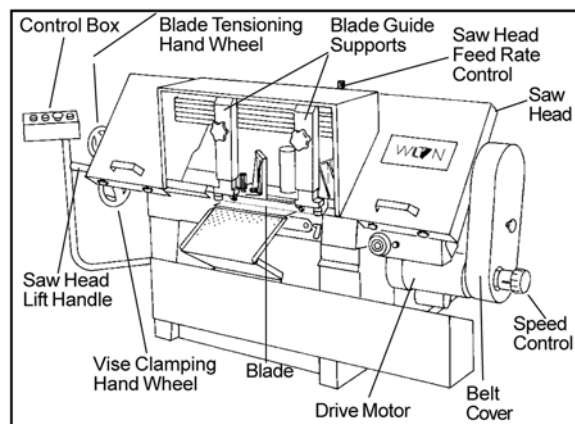

Figure 3: Controls
6. The rate at which the saw head moves downward is controlled by a hydraulic feed rate control located on the top, rear of the saw head (see Figure 3).
3. To adjust the feed rate, adjust the feed rate control valve knob on the top of the saw head (see Figure 3).